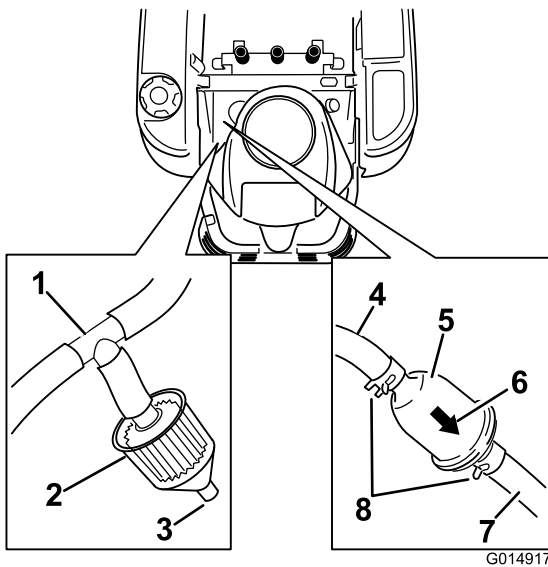

Figure 37
3. Raise the seat and locate the fuel filters as shown in Figure 37.
4. Squeeze the ends of the hose clamps together and slide them away from the filter (Figure 37).
6. Install a new filter with the flow direction arrow coming from the fuel tank and pointing to the engine. Move the hose clamps close to the filter (Figure 37) to secure it in place.
Some machines are equipped with a emissions filter (Figure 37) connected to a tee fitting on the vent line coming from the gas tank. The filter has an open port by design. The filter should be inspected regularly. Replace the filter if the filter is dirty or clogged.